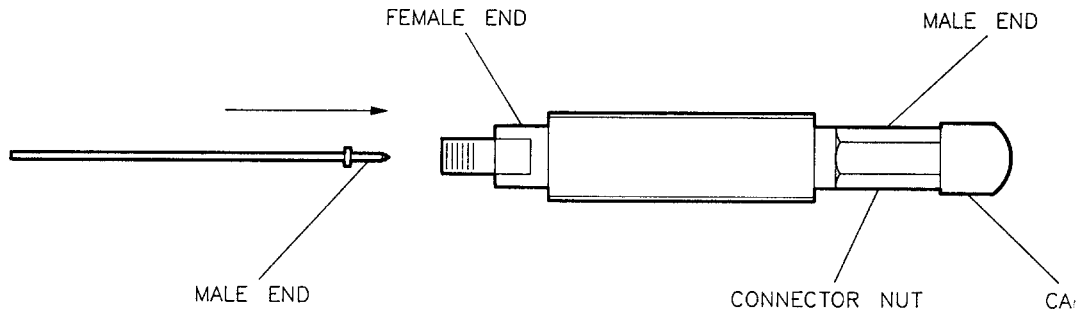

Figure 4-6. Airline Center Conductor Placement
3. Insert the male end of the center conductor all the way into the outer conductor; the female end of the center conductor is toward the end of the outer conductor without the connector nut see Figure 4-6.